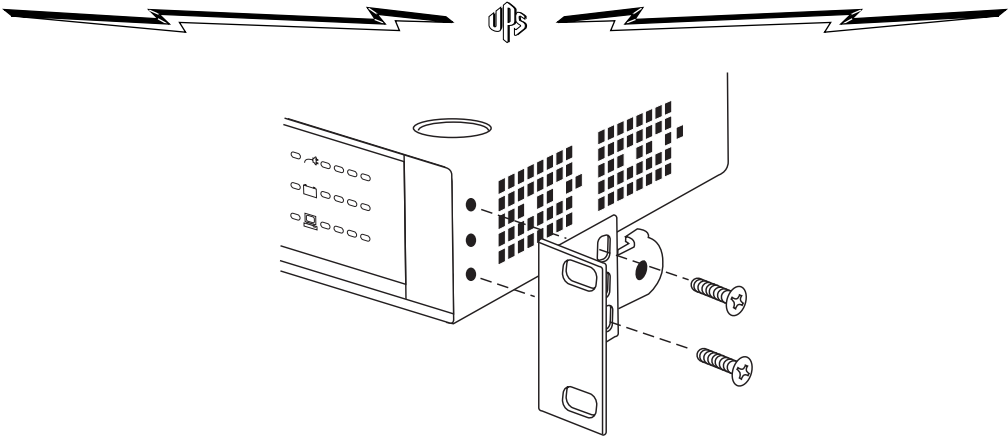

Figure 2. Attaching the Mounting Bracket
2. If the mounting brackets are not already installed, position a mounting bracket over the mounting holes on one side of the unit, as shown in Figure 2.